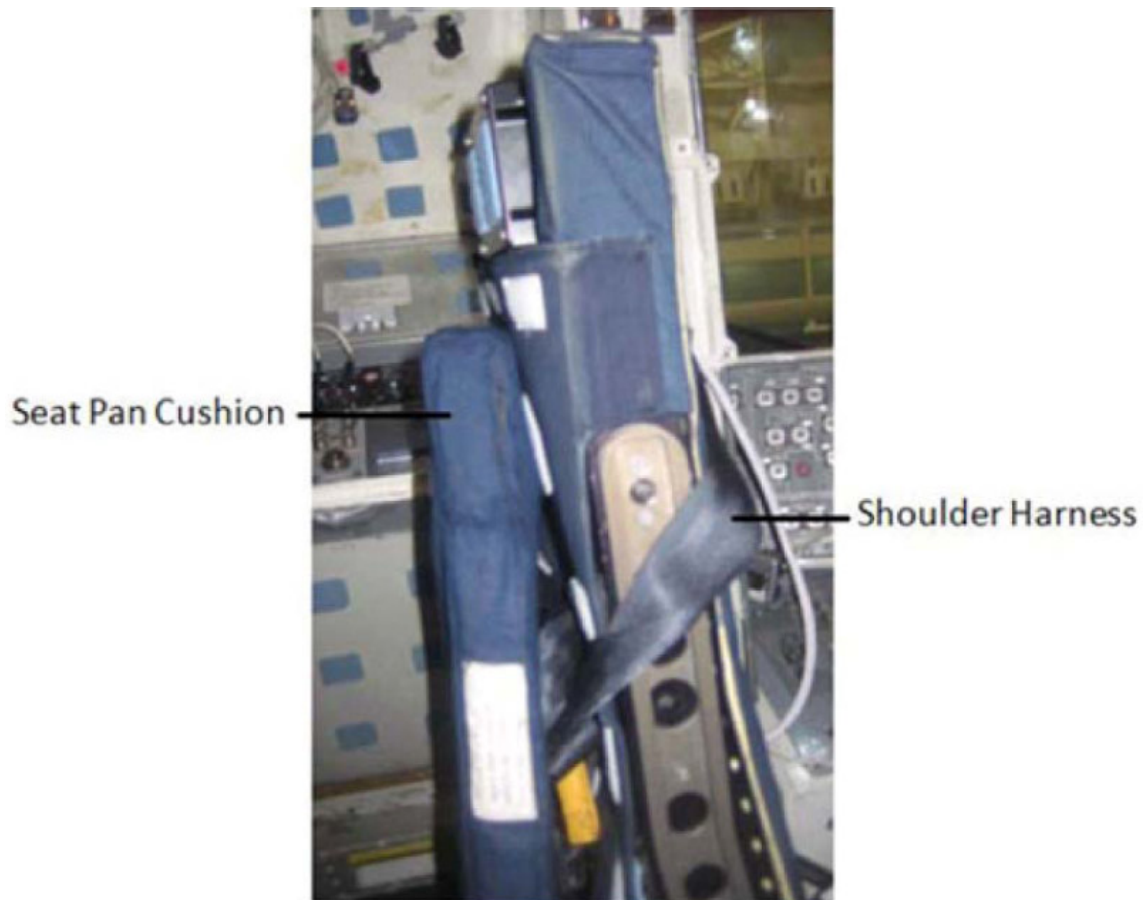

Figure 1. Shoulder Harness Wrapped Around CDR Seat Back.
- 2.4 Wrap shoulder harness around back of CDR seat and tie. Remove seat pan cushion and place on top of tied shoulder harness to line up with Velcro on back of seat. Refer to Figure 1.